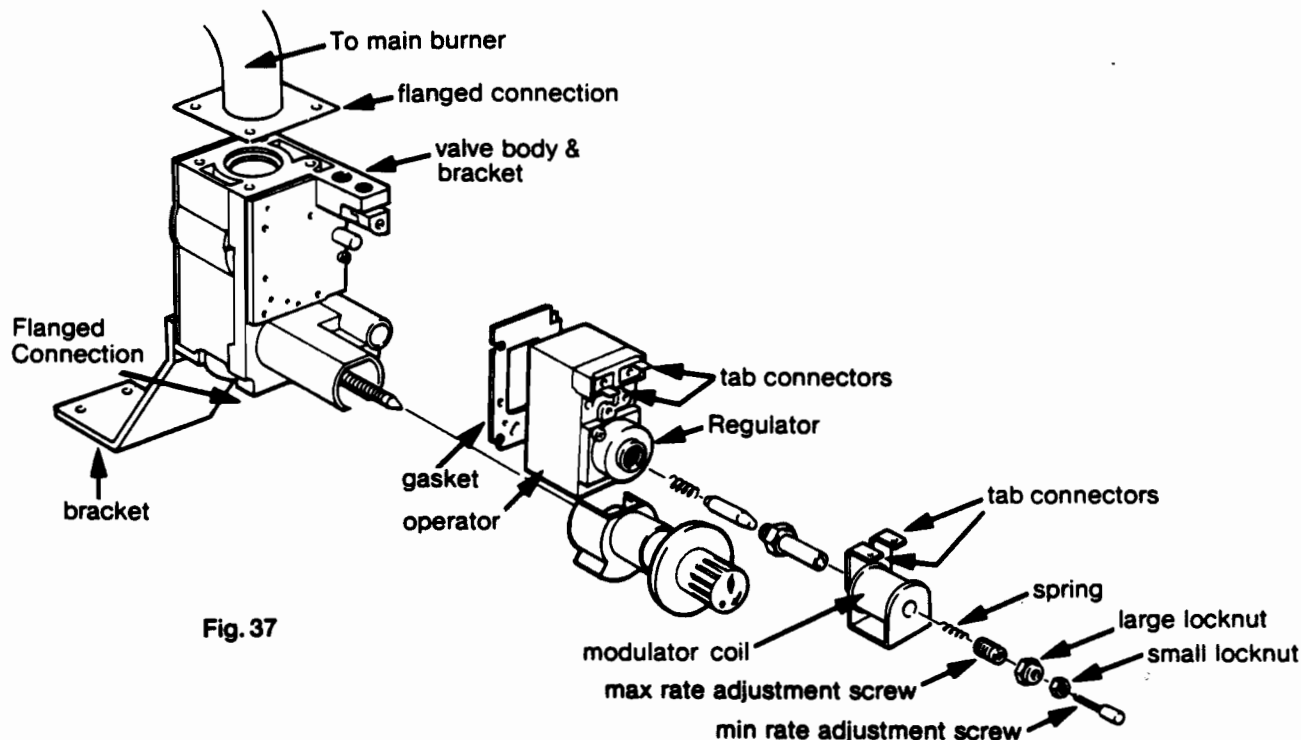

Fig. 37
8.11 To remove/replace gas control valve modulator and operator (Refer to fig 37)
8.11.2 Modulator Coil (fig 37)
8.11.3 Operator (fig 37)
8.11.4 Gas Control Valve (fig 37)